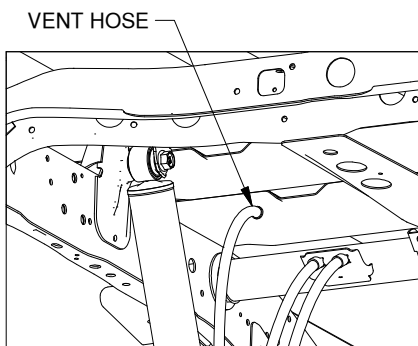

Figure A1: Looking inside driver side frame.
3. **Relocate vent hose.** Locate the vent hose that is attached to the rear side of the bed cross member that is behind the fuel tank, as shown in Figure A1. Use a small screwdriver to remove the vent hose from the bed cross member. The hose will be relocated after the hitch is installed.